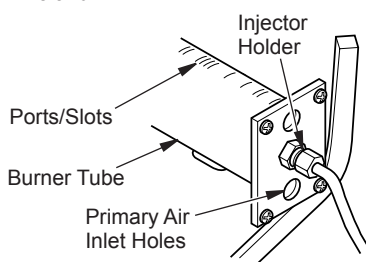

Figure 45 - Injector Holder On Outlet Burner Tube
2. Inspect burner, pilot, and primary air inlet holes on injector holder for dust and dirt (see Figure 45).